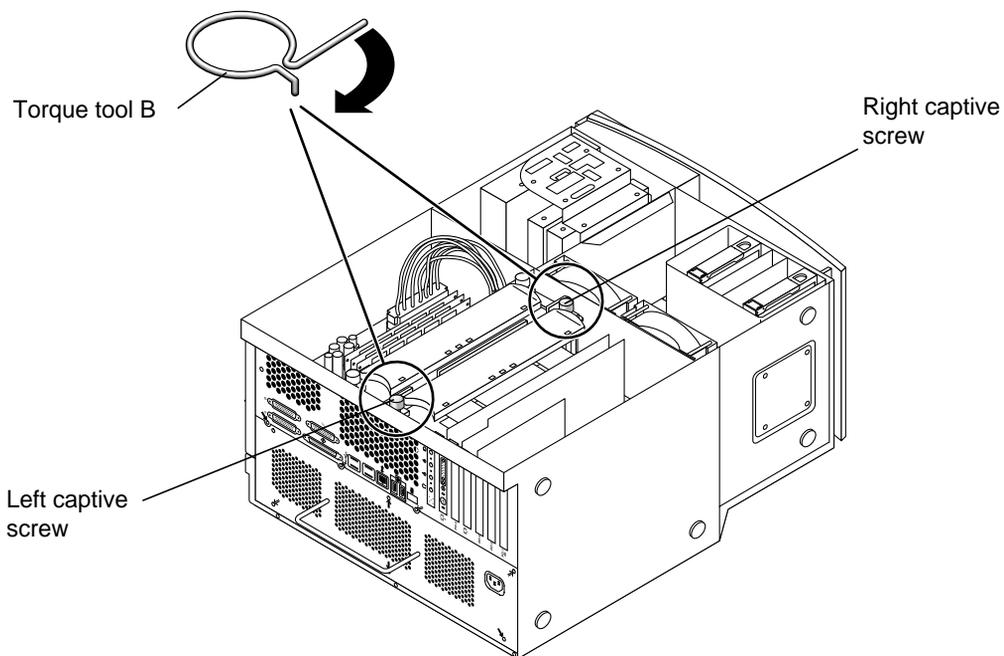

FIGURE 8-10 Alternately Rotating Left and Right Captive Screws One Turn Clockwise
5. Use torque tool B to rotate the left captive screw one turn clockwise (see FIGURE 8-10).
6. Use torque tool B to rotate the right captive screw one turn clockwise (see FIGURE 8-10).